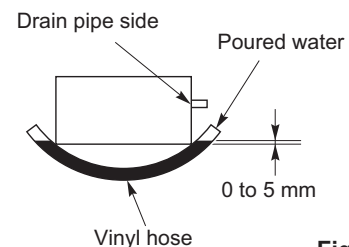

Fig. 2-132
- (5) The unit should be adjusted using water level or as shown in Fig. 2-132 so that the drain pipe side is slanted 5 mm lower than the opposite side.
- (6) After completing the adjustment of the clearance, fasten all upper and lower suspension nuts tightly.